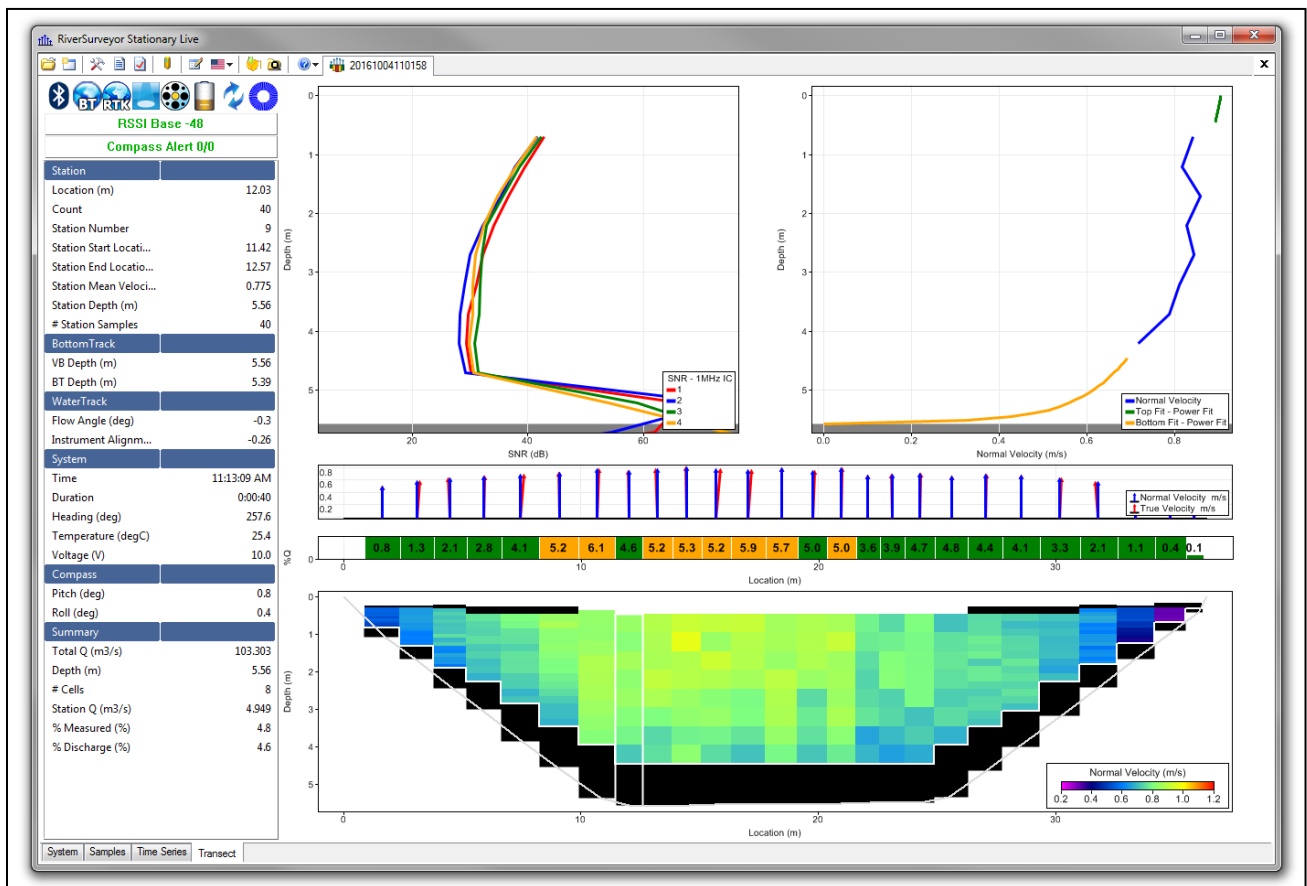

Figure 171. Data Collection Screen
- **Transect Tab:** This tab shows the same plots that you see during each station measurement. Clicking on a station location in the bottom transect plot automatically changes the top profile plots to reflect data from that location (Figure 171).